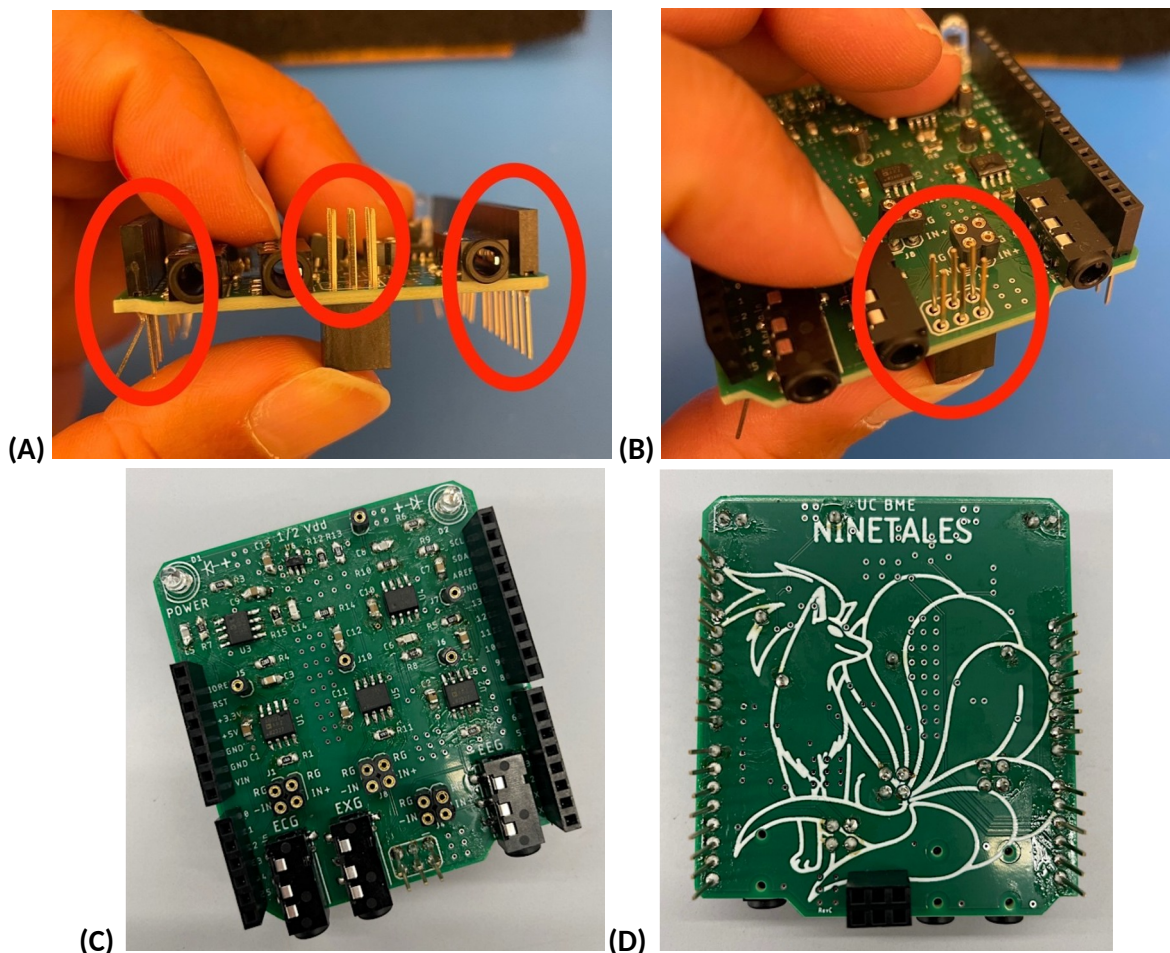

Figure 11. (A-D) Orientation of the header pins that stack the board on top of the Arduino.
7. When soldering the header pins, please consult Figure 11 a few pages below.